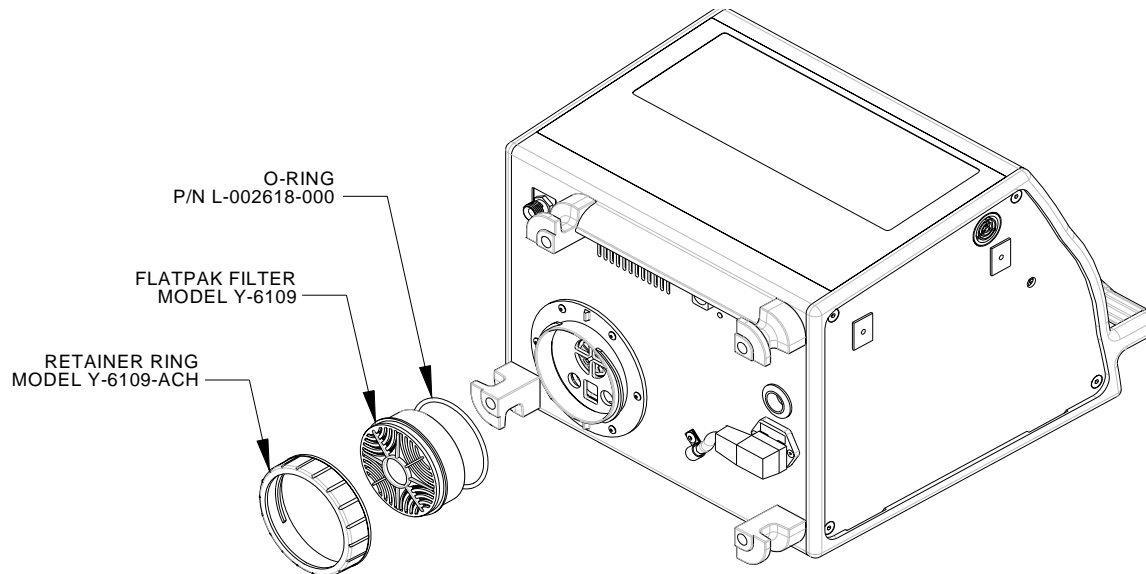

FIGURE 7-4.
1. Perform the following in the order listed and refer to Figure 7-4.